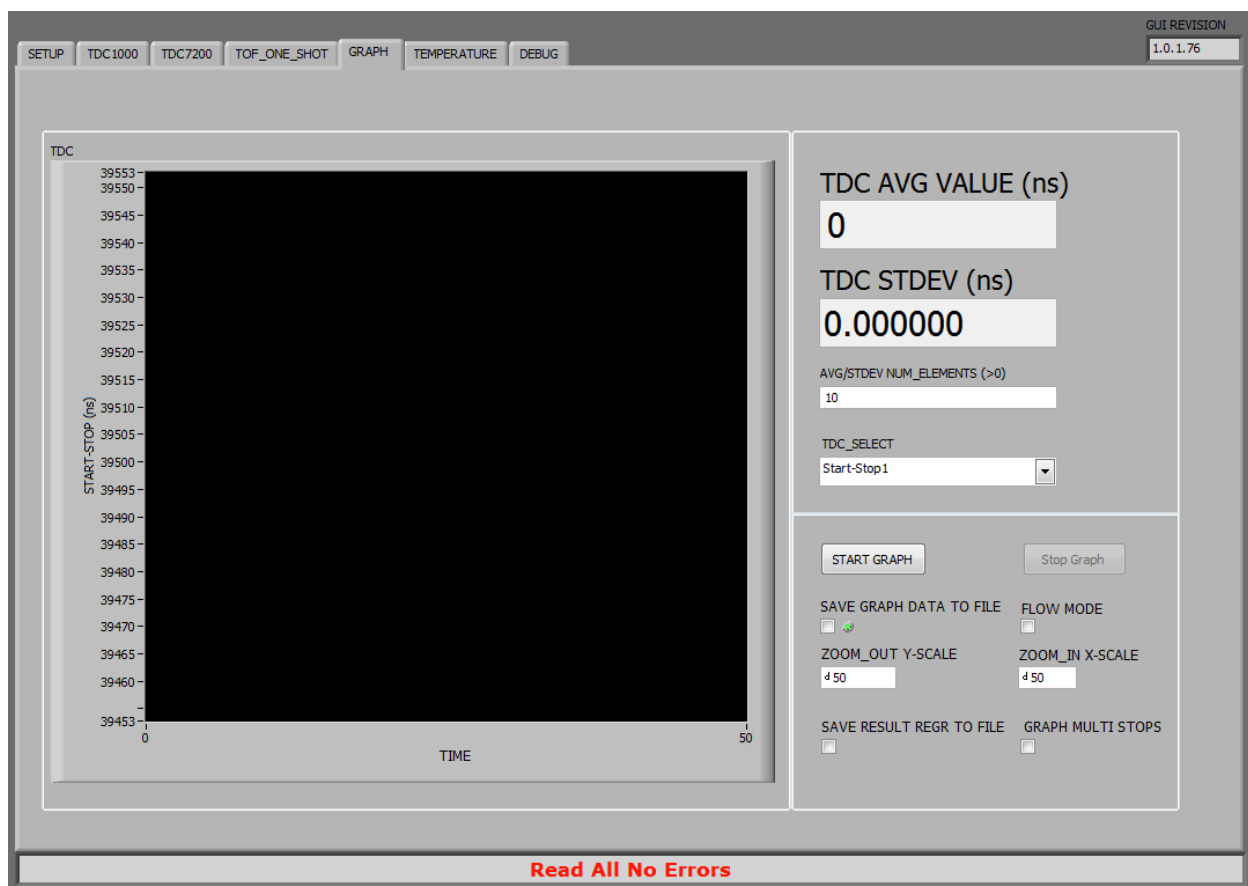

Figure 7. EVM GRAPH
2. The message at the bottom of Figure 7 -- “**Read All No Errors**” -- means that the GUI is up and running and all the registers and hardware connection are correct. Otherwise, refer to Section 4 and make sure to follow all the steps.